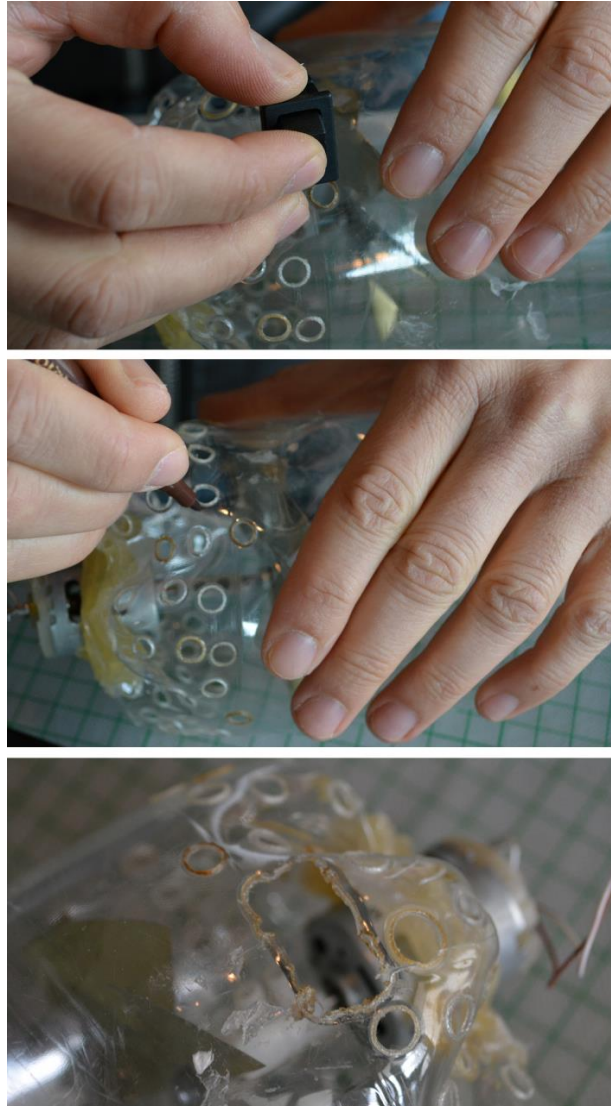

Figure 29
- Take the on-off switch and place it on the bottle. Use a marker to mark on the bottle the shape of the switch. Then using the cutter open a hole of the size of the switch (see Fig. 29)